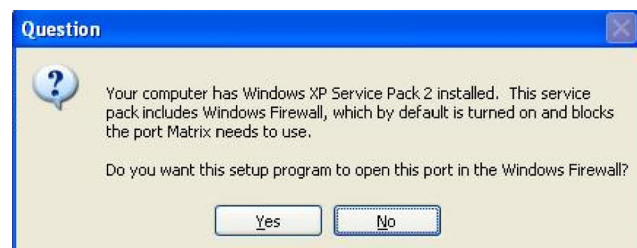

FIG. 30 Setup Path 2 - Firewall Question
- Setup checks for Windows XP Service Pack 2 installation. If Service Pack 2 is present, the pop-up shown in FIG. 30 appears. Choose **Yes** or **No** to continue.